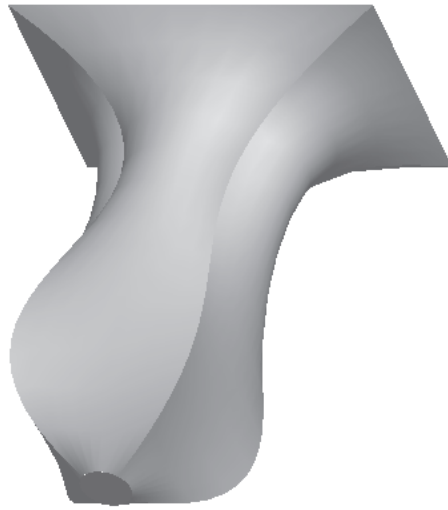

Figure 8-116 Smooth blend feature
- f. Redefine the model to change the straight blending into a smooth blending, refer to Figure 8-116.
7. Now, choose the **OK** button; the smooth blend is created, as shown in Figure 8-116.